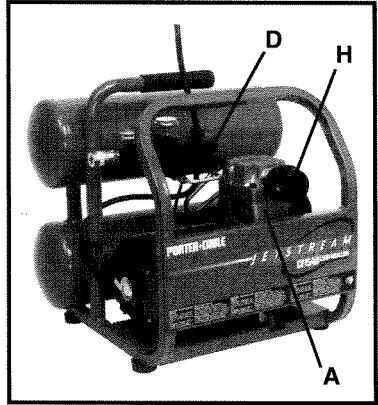

Fig. 1
Air Compressor Pump (A) Fig. 1: To compress air, the piston moves up and down in the cylinder. On the downstroke, air is drawn in through the intake valves. The exhaust valves remain closed. On the upstroke of the piston, air is compressed. The intake valves close and compressed air is forced out through the exhaust valves.
Pressure Switch (D) Fig. 1: The pressure switch automatically starts the motor when the tank pressure drops below the factory set "cut-in" pressure. It stops the motor when the air tank pressure reaches the factory set "cut-out" pressure.
Air Intake Filter (H) Fig. 1: This filter is designed to clean air flowing into the pump. This filter must always be clean and free from obstructions. Twist filter cover counter-clockwise to remove and expose paper filter element.